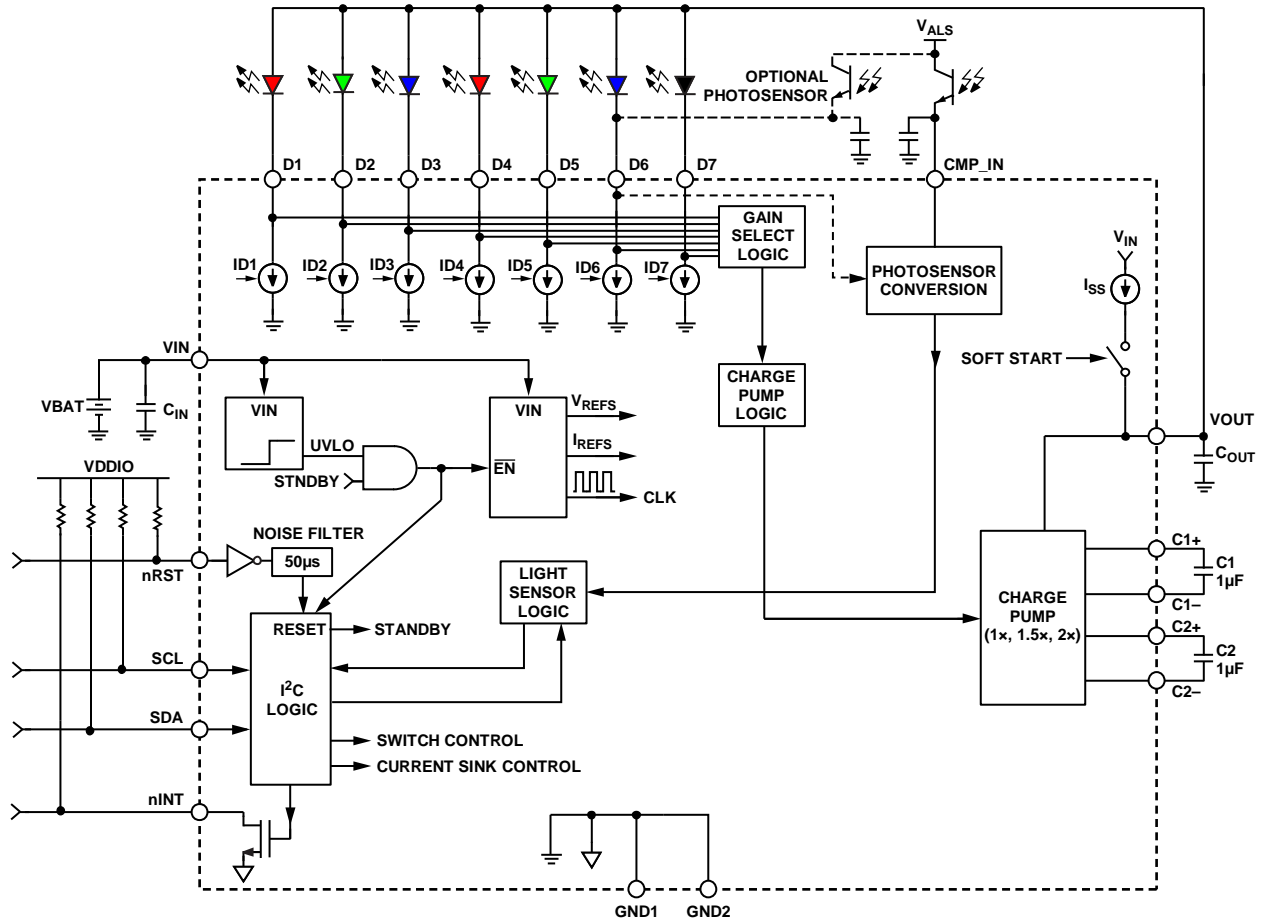

Figure 26. Detailed Block Diagram
By charging the capacitors in different configurations, the charge, and therefore the gain, can be optimized to deliver the voltage required to power the LEDs. Because a fixed charging and discharging combination must be used, only certain multiples of gain are available. The ADP8863 is capable of automatically optimizing the gain (G) from 1x, 1.5x, and 2x. These gains are accomplished with two capacitors (labeled C1 and C2 in Figure 26) and an internal switching network.